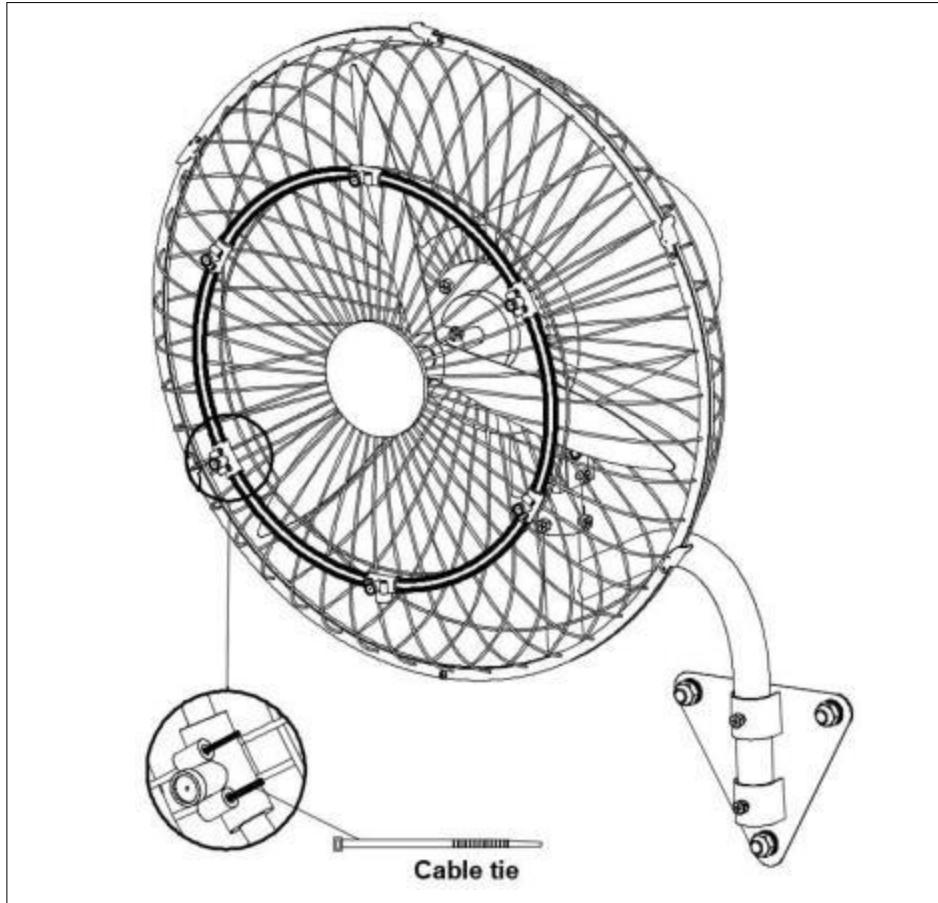

Fig.10.
1). Install the spray pipe on the front grille cover and fasten it with a cable tie.See the (Fig.10.)